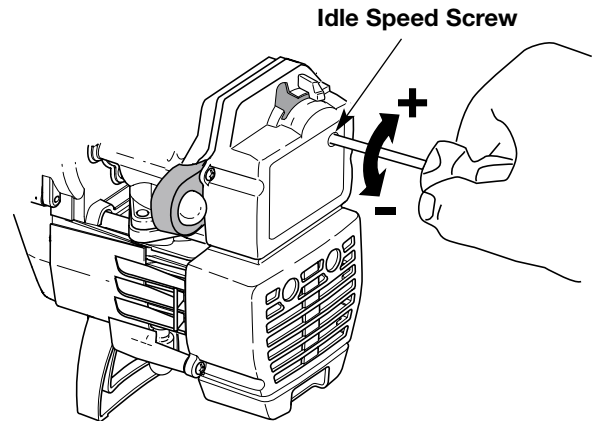

Figure 13
The idle speed adjuster of the engine is adjustable through the air filter/muffler cover. See Figure 13.
2. Release the throttle control and let the engine idle. If the engine stops, insert a small phillips or flat blade screwdriver into the hole in the air filter/muffler cover. Turn the idle speed screw in, clockwise, 1/8 of a turn at a time (as needed) until the engine idles smoothly. See Figure 13.